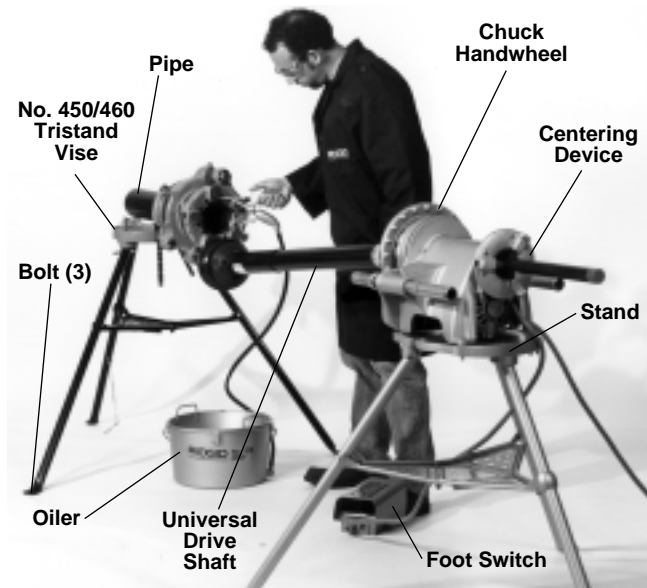

Figure 22 – Threading with Nos. 141 and 161 Geared Threaders using No. 840A Universal Drive Shaft
3. Locate chain vise in line, on same level, and approximately the length of universal drive shaft away from Power Drive front chuck (Figure 22).